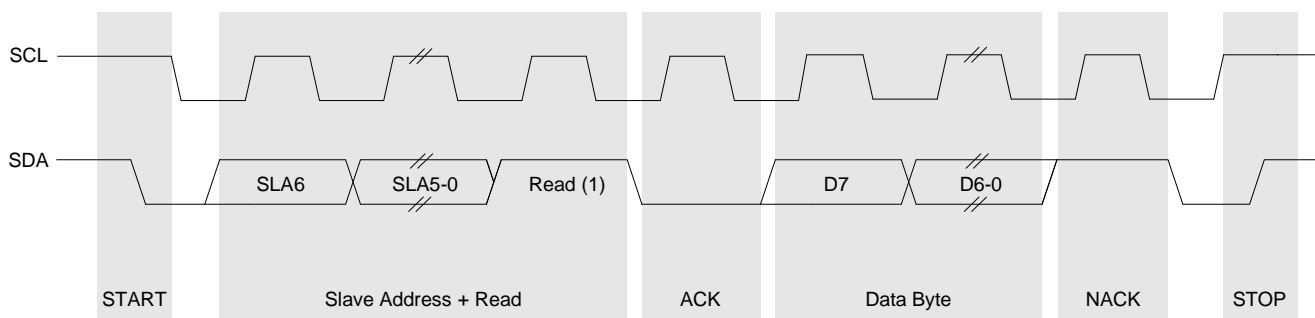
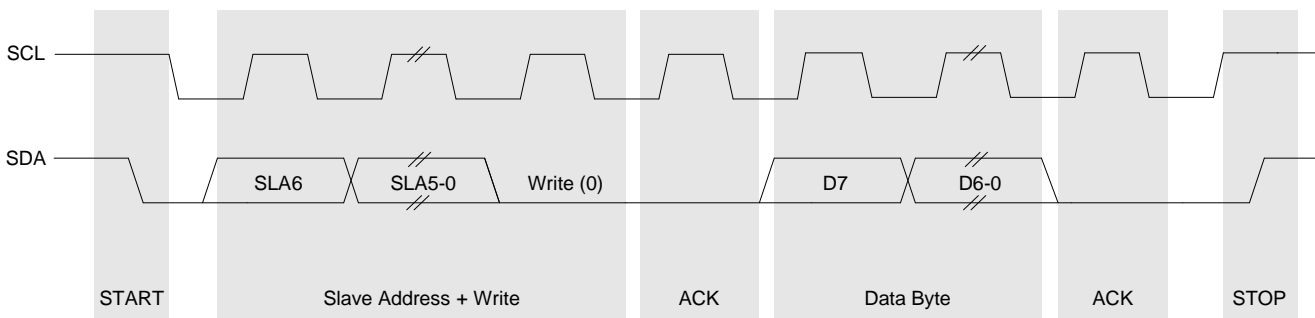

Figure 6. Typical CP2112 Read
Figure 7. Typical CP2112 Write
A typical SMBus transaction consists of a START condition followed by an address byte (Bits7–1: 7-bit slave address; Bit0: R/W direction bit), one or more bytes of data, and a STOP condition. Bytes that are received (by a master or slave) are acknowledged (ACK) with a low SDA during a high SCL (see Figures 6, 7, and 8). If the receiving device does not ACK, the transmitting device will read a NACK (not acknowledge), which is a high SDA during a high SCL.
The direction bit (R/W) occupies the least-significant bit position of the address byte. The direction bit is set to logic 1 to indicate a "READ" operation and cleared to logic 0 to indicate a "WRITE" operation. All transactions are initiated by a master, with one or more addressed slave devices as the target. The master generates the START condition and then transmits the slave address and direction bit. If the transaction is a WRITE operation from the master to the slave, the master transmits the data one byte at a time waiting for an ACK from the slave at the end of each byte. For READ operations, the slave transmits the data waiting for an ACK from the master at the end of each byte. At the end of the data transfer, the master generates a STOP condition to terminate the transaction and free the bus. Figure 6 illustrates a typical CP2112 read transaction, and Figure 7 illustrates a typical CP2112 write transaction.
- Updated Figure 6 and added Figures 7 and 8.